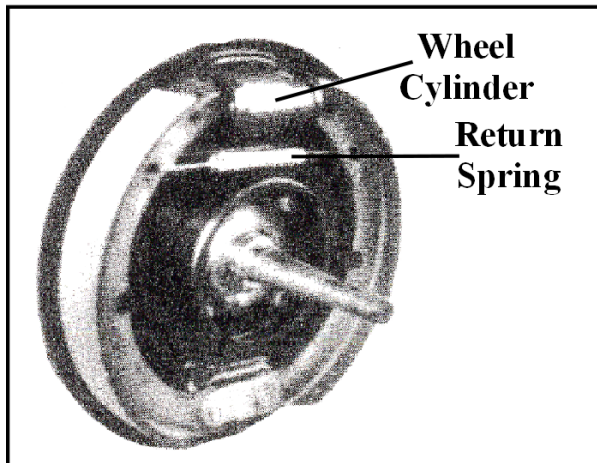

FIGURE 10
5. Install wheel cylinder. Large end of wheel cylinder goes forward, bleed screw goes on top and flex line port goes toward rear (Figure 10 and 11).